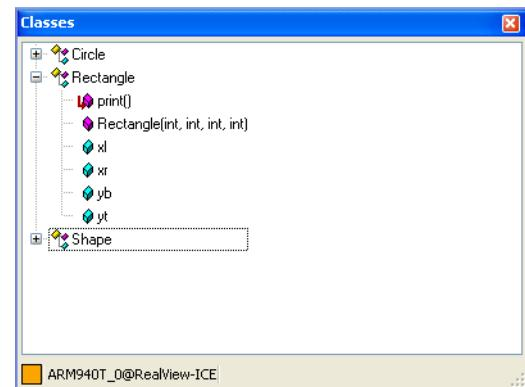

Figure 13-15 Components of class entries in the Classes view
3. Expand the class entry to see the components. Figure 13-15 shows an example:
Colored icons are used to identify different components within a class (see Figure 13-15 on page 13-22):